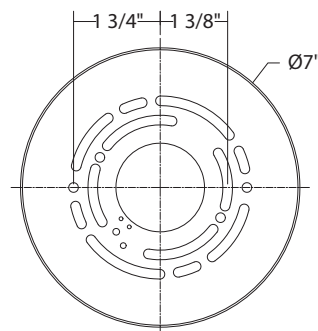

Fig.3 Driver Wires
MOUNTING THE FIXTURE (Fig. 1 / Fig. 3)
- b) Due to limited space within the canopy, shorten the cable as necessary to make the installation easier. Make sure to identify and label all the wiring properly before any trimming/shortening (Fig. 3).
CONNECTING THE WIRES (Fig. 2 / Fig. 3/ Fig. 4)
6. Connect the fixture, CCT switch, and driver's output wires to center cable as shown in Fig. 3, red to the white+, black to the black, blue to the black-, brown to the bare-, make sure that wire connectors(A) are secured. Then tuck them inside the canopy.